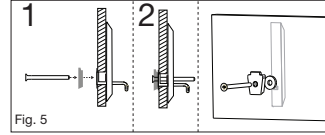

Fig. 5
15. As you hold the flange and apply pressure to the bar by pulling outward, align the hole in the mounting bracket with the center hole of the flange and insert a 3" machine screw into the mounting bracket and then the center hole of the flange. Ensure that the mounting bracket is positioned upright with the tab on the large side facing upwards. Next align the machine screw with the threaded insert in the bar and tighten enough to keep the bar upright. **DO NOT COMPLETELY TIGHTEN. (Fig. 5)**